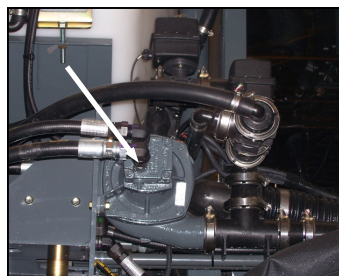

FIG. 63-4
**SOLUTION PUMP**– The solution pump (fig. 63-4) is a centrifugal type hydraulic pump that is controlled by the Pulse Width Modulated Valve (fig. 63-5) and the Raven console (fig. 63-6). The pump draws the solution out of the tank at a rate determined during the calibration of the Raven console. It dispenses it through the many valves and hoses that make up the spray system. The pump also dispenses fluids through the agitation system and the rinse systems.